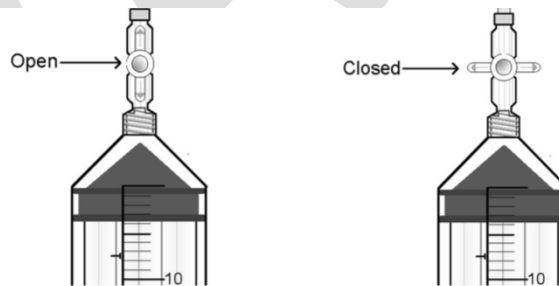
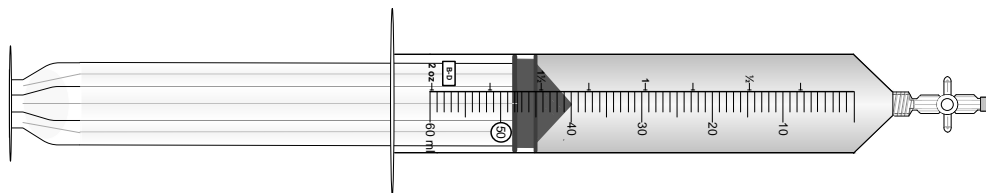
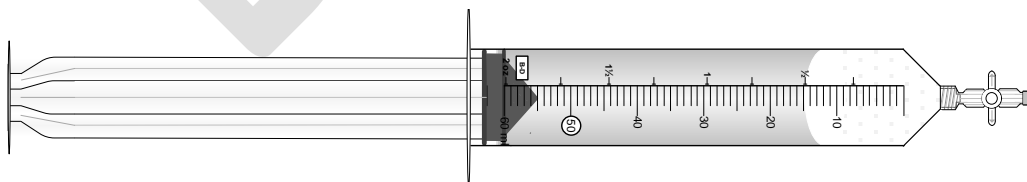

Figure 7. Example of a syringe and stopcock in the “Open” and “Closed” positions.
Figure 8. A syringe with a 45 mL water sample.
Figure 9. A syringe with 45 mL of water and 15 mL of air.
- v. RINSE: Place the syringe tip (with 2-way stopper attached and turned to open; Figure 7) into the stream so that you are sampling the water ~10 cm under the surface of the water. Pull in ~20 mL water and remove syringe from stream. Rinse the syringe by pulling the stopper all the way back (without removing it) and shake. Expel the rinse water downstream or onto the bank. Repeat.
- w. SAMPLE: Put the syringe tip back into the water, below the surface, and pull the plunger until the syringe is completely full. Remove the syringe and tap the sides of the syringe firmly with your hand/fingers to remove the air bubbles. EXPEL water, leaving approximately 1 mL in the syringe, which will help reduce air intake on the next sampling. Put the syringe back in the water, expel the final 1 mL of aerated water below the stream surface, and slowly fill to the 45 mL mark, being careful not to entrain any air bubbles (Figure 8). Immediately turn the 2-way stopper to the closed position before removing the syringe from the stream (Figure 7). Take 5 separate syringe samples all within the main flow of water. Place the syringe in a small cooler to help maintain temperature.
- a. Away from stream, where there will be no contamination in the air from the injection, such as upstream and upwind, open stopcock and draw in 15 mL of air so the syringe is filled to the 60 mL mark with air and water (Figure 8). Close stopcock. VERY IMPORTANT: To be consistent, be sure to have the bottom of the meniscus at the 15 mL mark (Figure 9).
- d. After shaking, place needle with needle cover still attached on 2-way stopcock. Once needle is attached, remove the plastic covering. Holding the syringe upright, open the stopcock (Figure 9) and push a small (~0.5 mLs) through the needle to purge the air in needle.